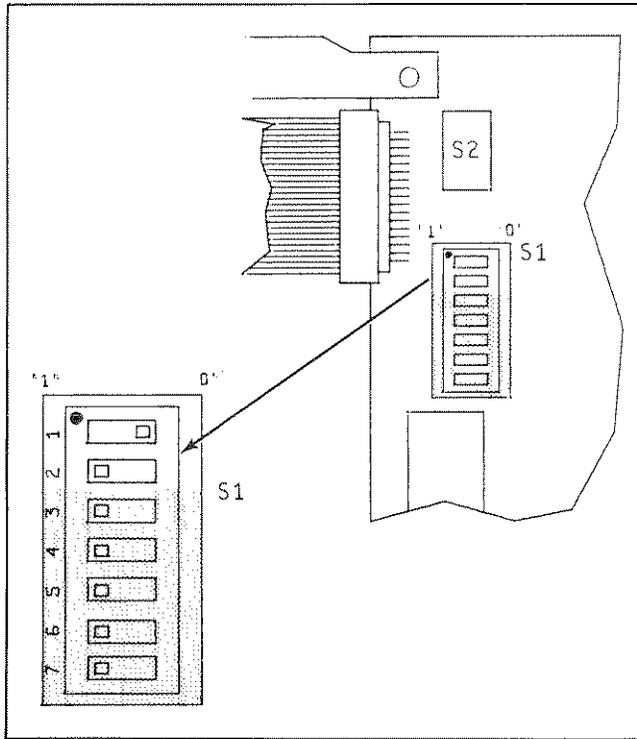

Figure 8-A2-5. Switch Setting for Test #3
g. Check the signature at pin 9 of U37, which should be "5FA7". If both the U31 and U37 signatures are correct, Test 3A passes and there is no need to go to Test 3B, 3C, etc. If Test 3A passes, make sure to rewire the pulse transformers as shown in Figure 8-A2-7. If